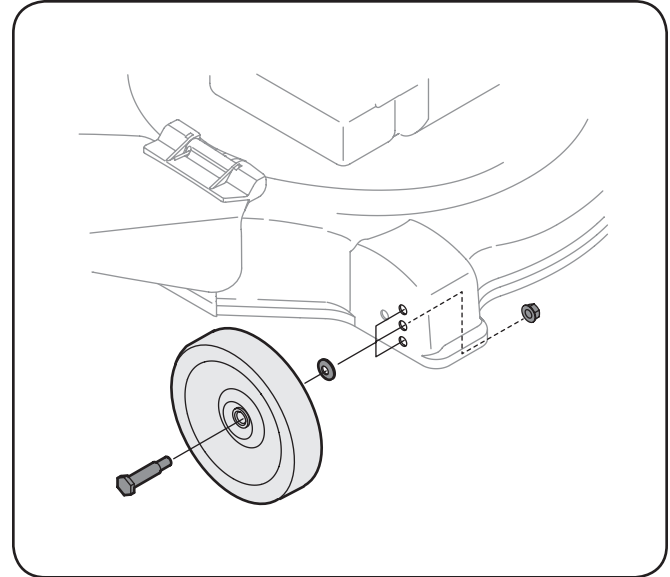

Figure 3-7
1. Remove the carriage bolts and related hardware from the wheels as shown in Figure 3-7.